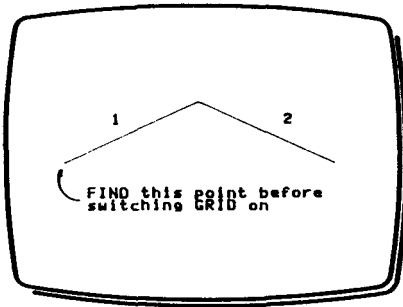

Fig 2
- 2 Draw two lines, as (1) and (2) in Fig 2.
- 3 Select FIND from the Menu and press and release L to locate the start of line (1). Then press and release T to plant the origin cursor at this point.